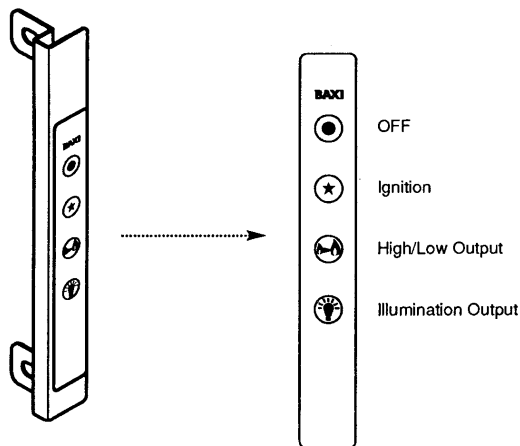

Fig. 22
1. To purge the air from the appliance, press the ignition button (⊕) on the switch panel at the top right hand side of the fire (Fig. 22).